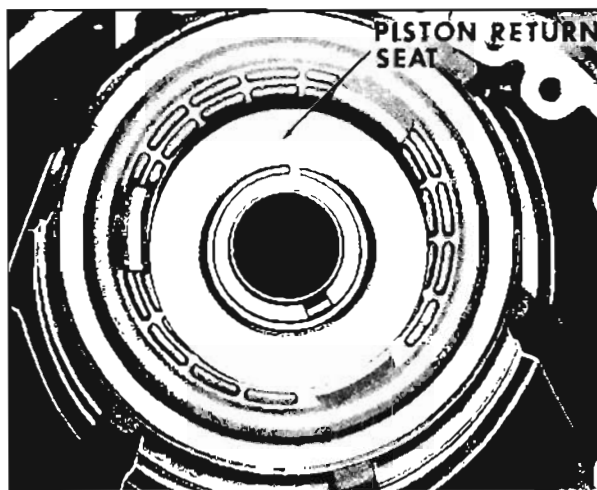

Fig. 6-419 Installing Return Seat
3. Position piston return seat on piston return springs. Place snap ring on return seat so that ring may be easily installed when seat is compressed with tool. (Fig. 6-419)